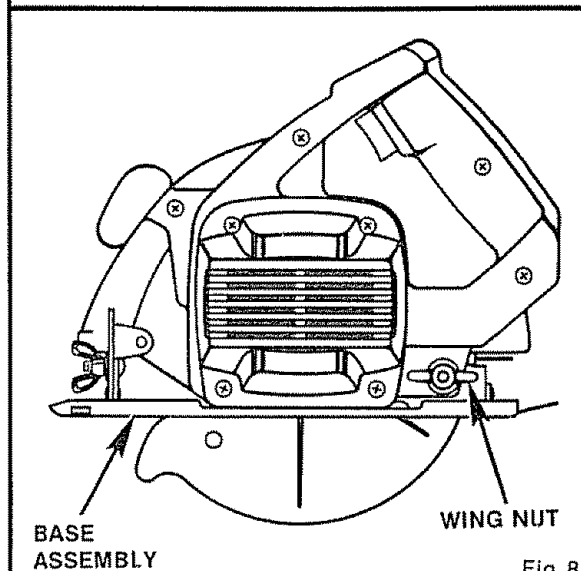

Fig 8
2. Loosen wing nut. See Figure 8.